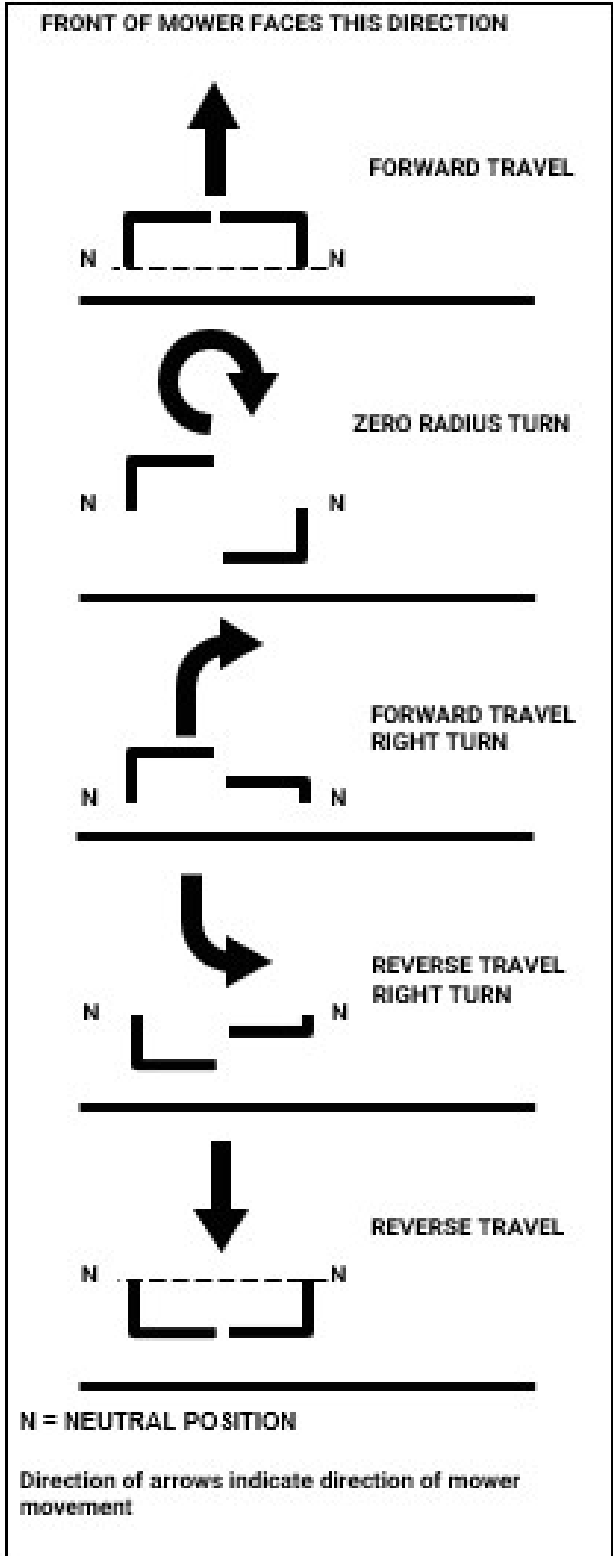

Figure 9
**To go forward**, push the steering control levers forward an equal distance. [Figure 9]
**To go in reverse**, pull the steering control levers rearward an equal distance. [Figure 9]
**To turn left**, move the right steering control lever farther forward from neutral than the left steering control lever. [Figure 9]
**To turn right**, move the left steering control lever farther forward from neutral than the right steering control lever. [Figure 9]
**Zero radius turn**, move one steering control lever forward and the other steering control lever back of neutral. This allows the drive wheels to counter-rotate. [Figure 9]